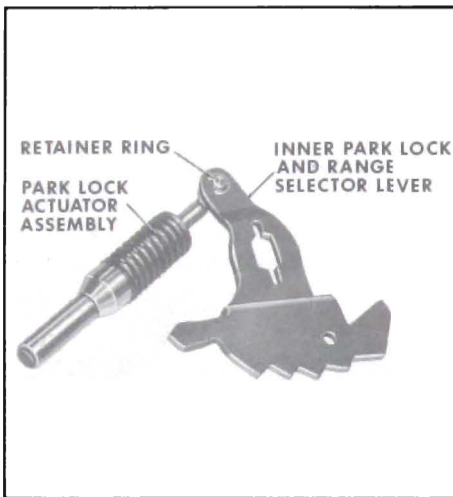

Figure 5-288
5. Assemble park lock actuator assembly to inner park lock and range selector. See Figure 5-288.